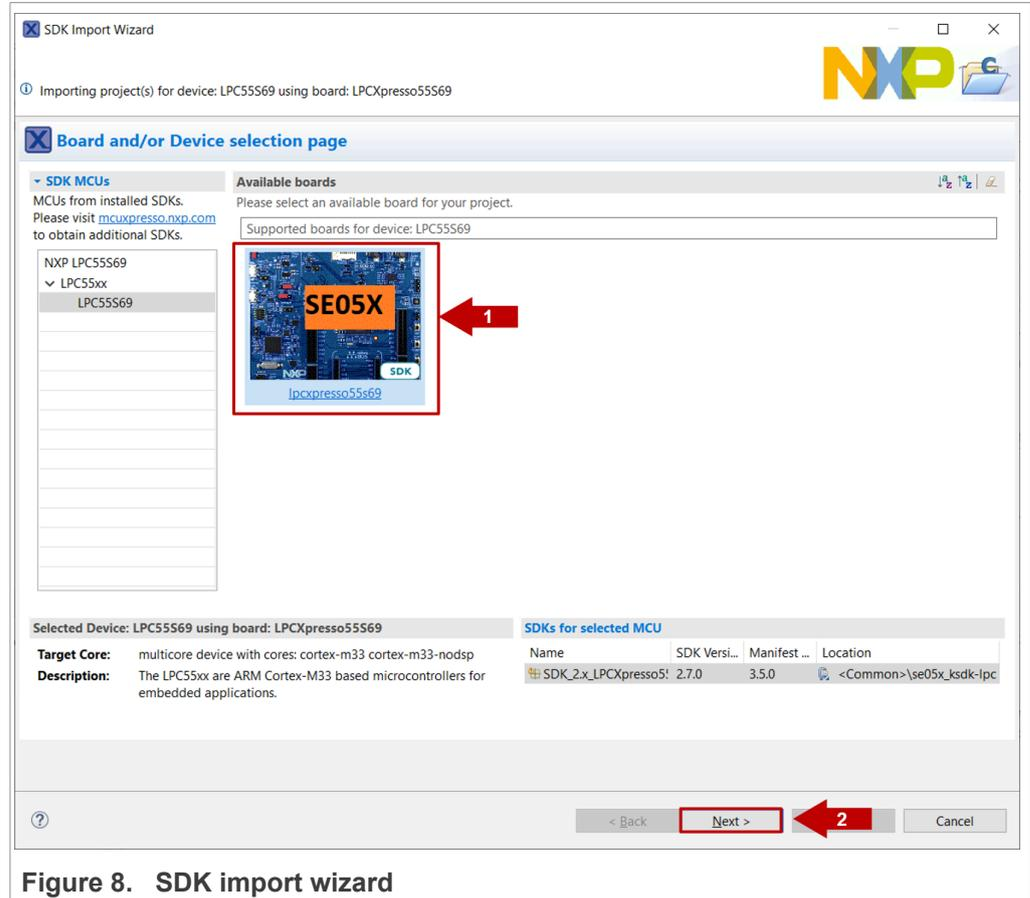

Figure 8. SDK import wizard
- The SDK import wizard will open. You should see a figure of an LPC55S69 board with an orange label. Select the board and click the *Next* button as shown in Figure 8: